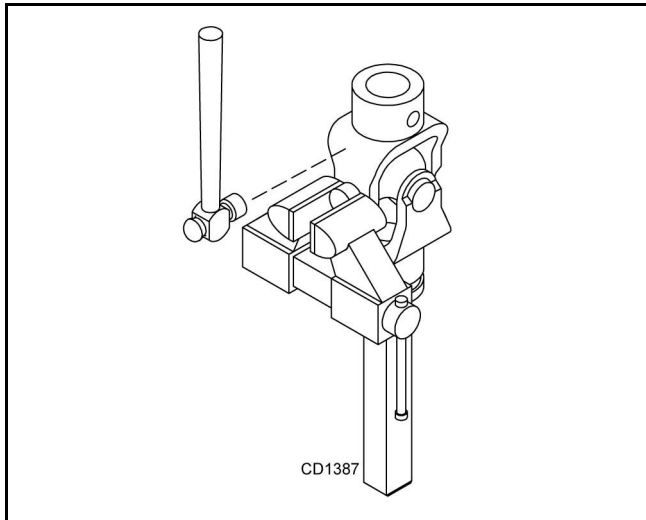

Figure 25. Remove Bearing Cups
3. Clamp cup in vise as shown in Figure 25 and tap on yoke to completely remove cup from yoke. Repeat Step 2 & 3 for opposite cup.